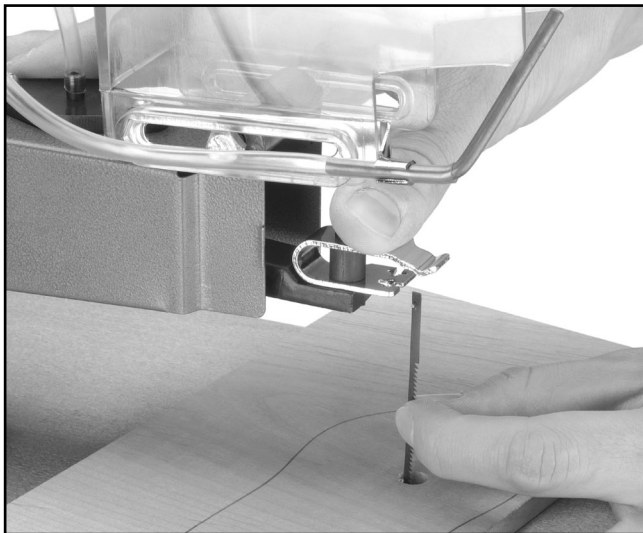

Figure 13. Installing the blade for an inside cut.
4. Thread the blade through the hole in the workpiece as shown in **Figure 13**.